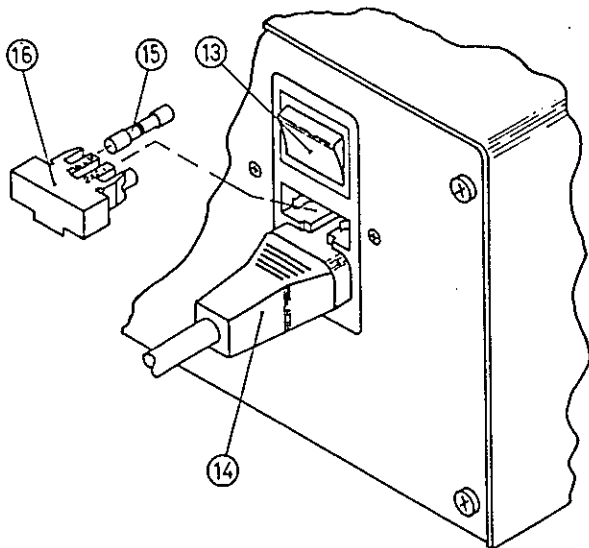

FIG. 2
- 4.1.3 Fuses (2 ea.) must be in order. see: fig. 2 (15)+(16)